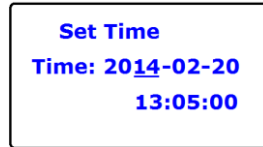
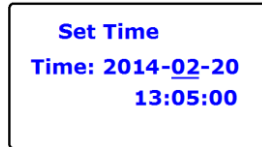

Fig 6.3.11
Fig 6.3.12
- 3) When finish the current sequence, thrice knock to enter and then go to next sequence, as Fig 6.3.11 and Fig 6.3.12.